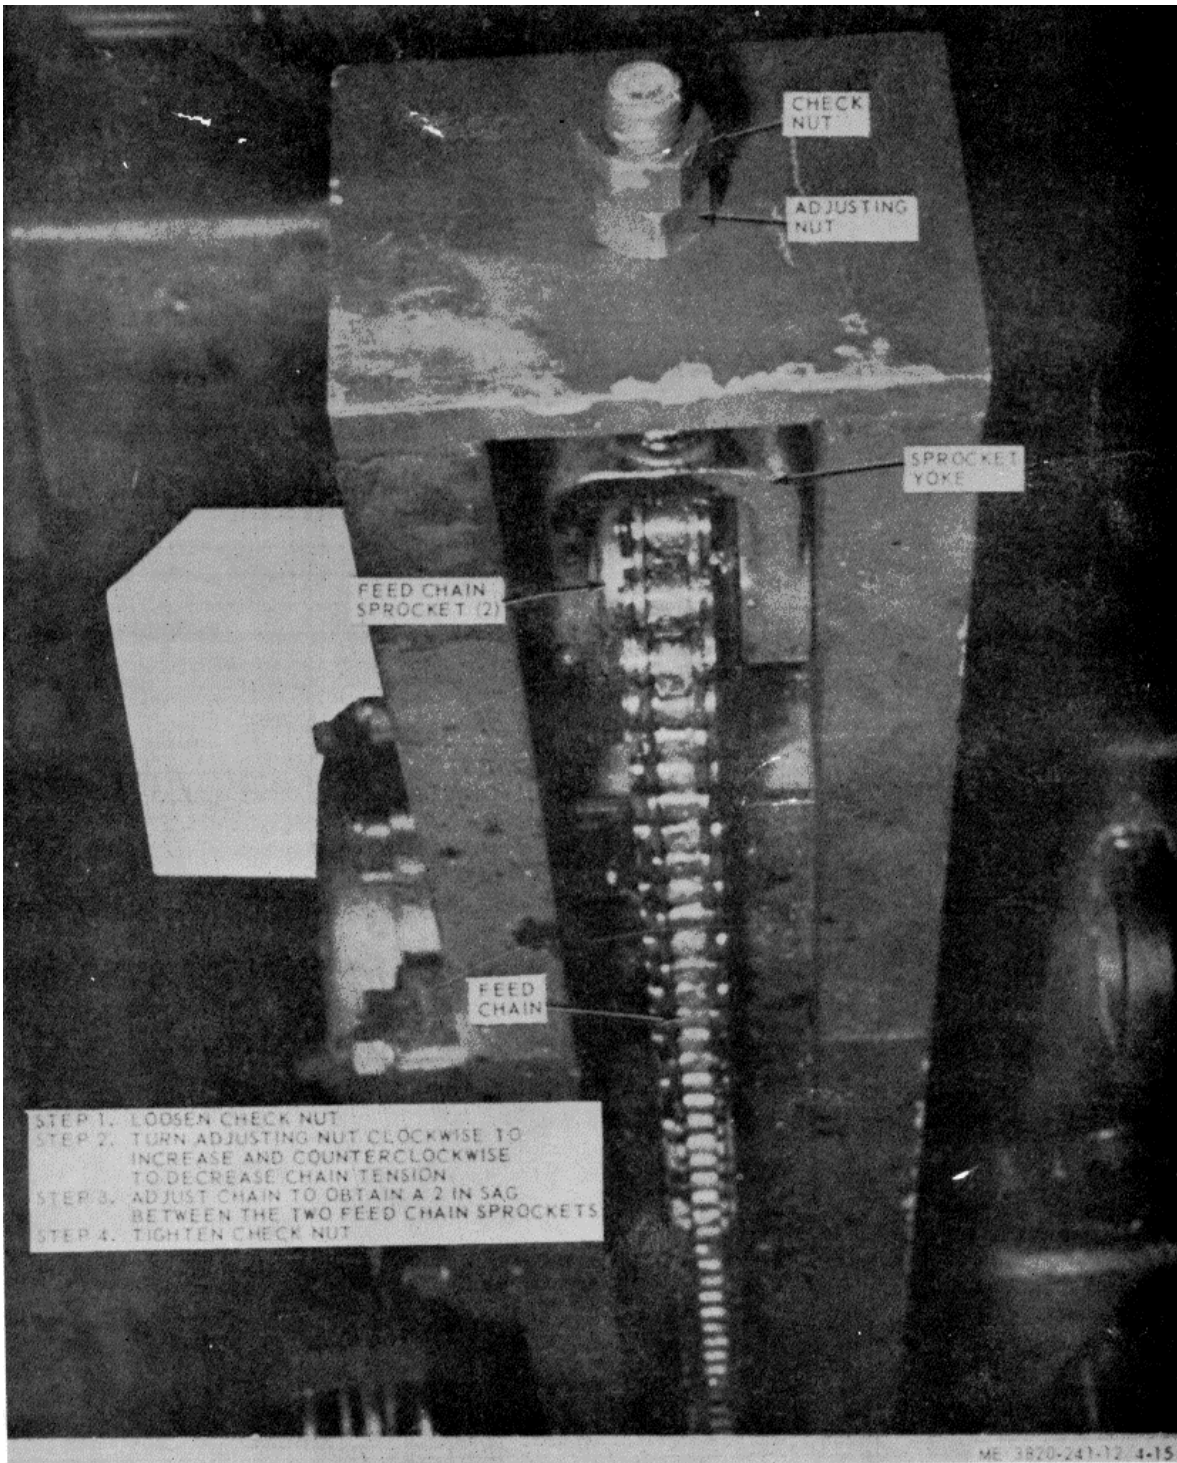

Figure 4-15. Feed chain adjustment.
(1) Refer to paragraph 2-9 and position the feed mechanism in the horizontal position.
(2) Adjust the feed chain as illustrated in figure 4-15.